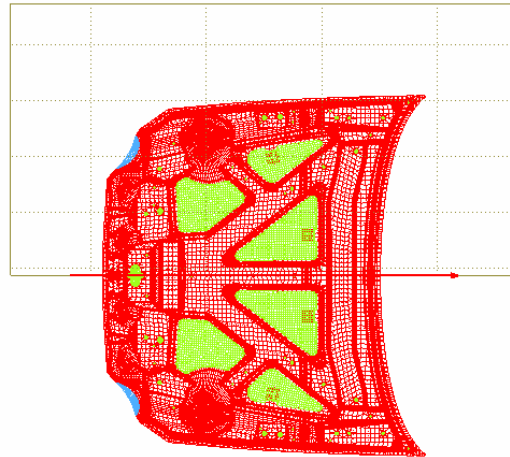

Figure 29 Create flat binder surface
5. Click **Create** button at the bottom of the **Binder** dialog box. The flat binder surface has been created as illustrated in Figure 29.